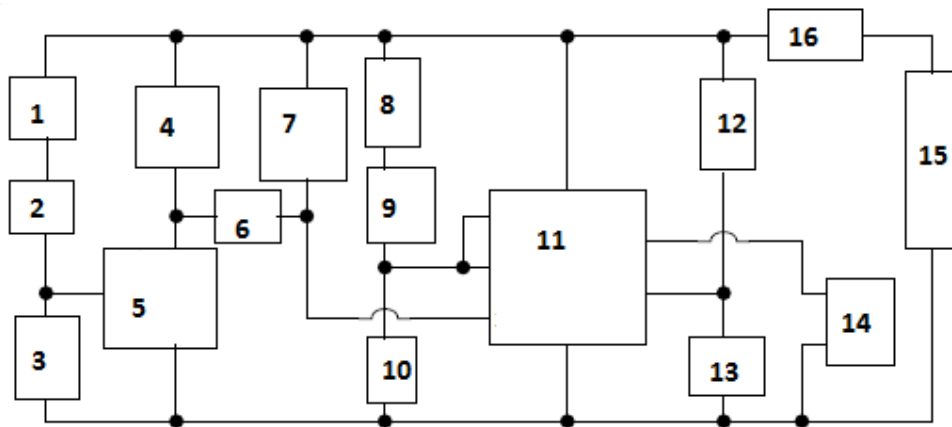

Figure Q5 (b)
- a) Draw a double line sketch of an orthographic pipe network of the single line network shown in **Figure Q5 (a)** (13 marks)
- b) **Figure Q5 (b)** shows Light-sensitive Alarm Project circuit. The circuit detects a sudden shadow falling on the light-sensor and sounds the beeper when this happens. Redraw the circuit given indicating the correct symbols of the devices as given in the list below (7 marks)